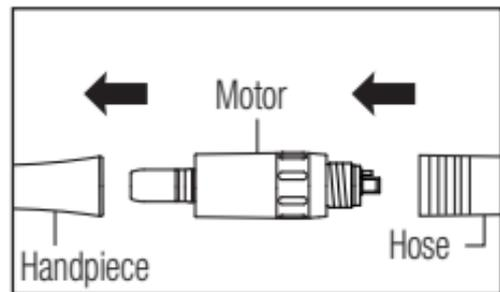

Fig. 13
- 5 Remove the handpiece from the motor and remove the motor from the hose (Fig. 13).